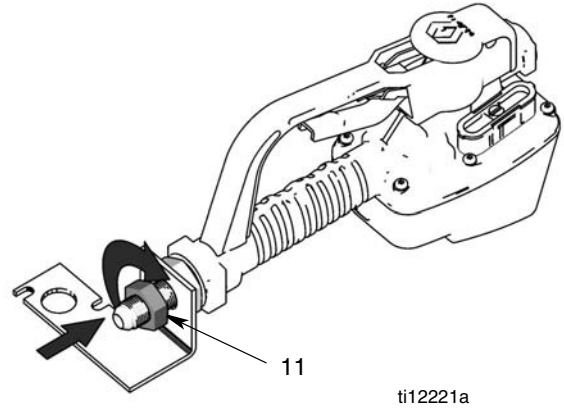

FIG. 8
- c. Install nut (11) (FIG. 8). Finger tighten.